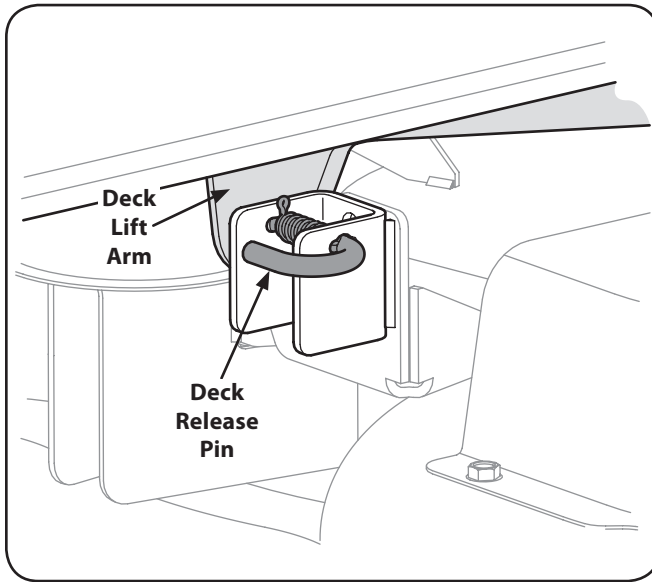

Figure 7-6
8. Locate the LH and RH deck release pins on each side of the deck. Pull the release pins outward and release the deck from the LH and RH deck lift arms. See Fig. 7-6.
4. Pull the deck release pins outward and maneuver the deck as necessary to align the holes in the deck lift arms with the pins. Refer to Fig. 7-6.